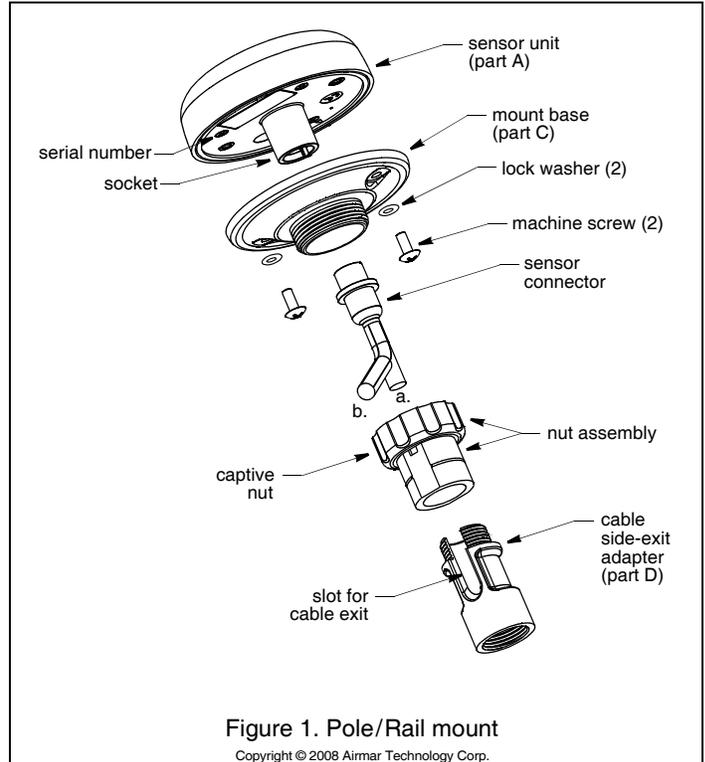

Figure 1. Pole/Rail mount
1. Remove the label from the sensor unit's socket (Figure 1). Fasten the mount base (part C) to the sensor unit (part A) with the two machine screws and lock washers supplied. The torque for the screws is 1.35Nm.